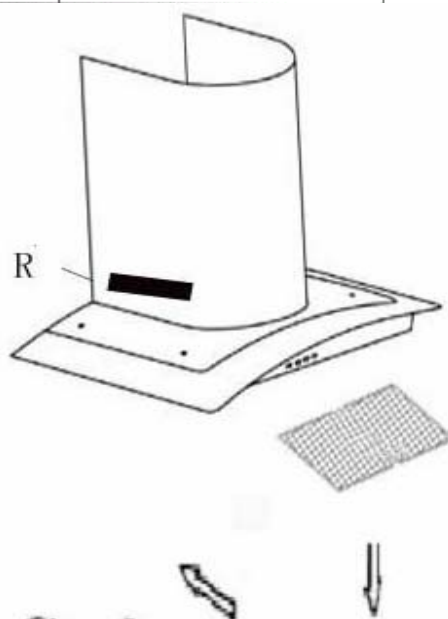

Fig. 2
- ✓ Remove the metal anti-grease filters (see Figure 2 below) and find the old bulb located in the light fixture up inside the exposed canopy. Change the halogen bulb using only olive-shaped spares with a G4 coupling, max. 20W.
- 1) Press the handle of the metal grease filter towards the rear part of the unit until it is released from the front housing, and remove it by pressing downwards (Fig. 2 - above).